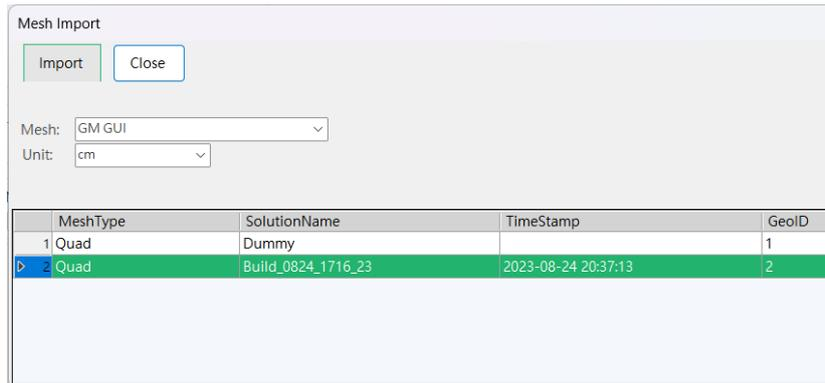

Figure 1.32. Mesh Import window.
2. Then, the 'Mesh Import' window pops up as shown in Figure 1.32. Choose 'cm' in unit and click on 'Import'.